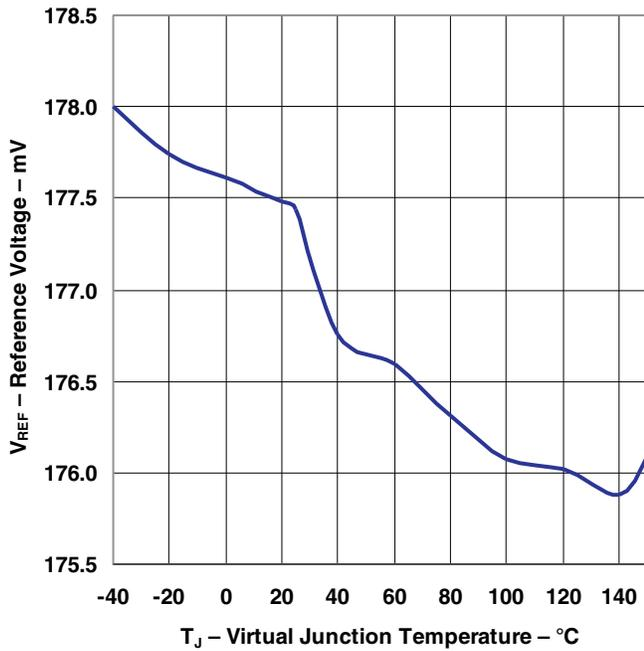

Figure 3. Reference Voltage vs Junction Temperature
(1) $V_Q - V_{REF}$ equals the forward voltage sum of the connected LEDs (see Figure 3).